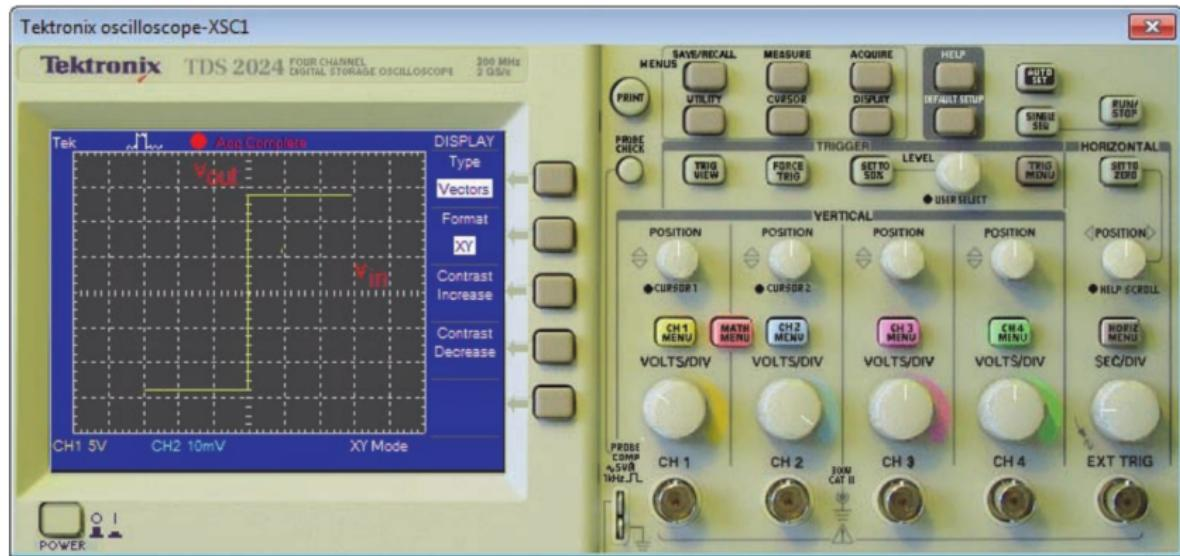

Figure 3: 741C response
- For instance, Fig. 3 shows the input/output response for a 741C with supplies of ± 15 V.
- ▶ Channel 2 (the horizontal axis) has a sensitivity of 10 mV/ Div. In Fig. 3, the transition appears to be vertical.
- ▶ In Fig. 3, the transition appears to be vertical because the sensitivity of the 2 channel is 10 mV/Div.